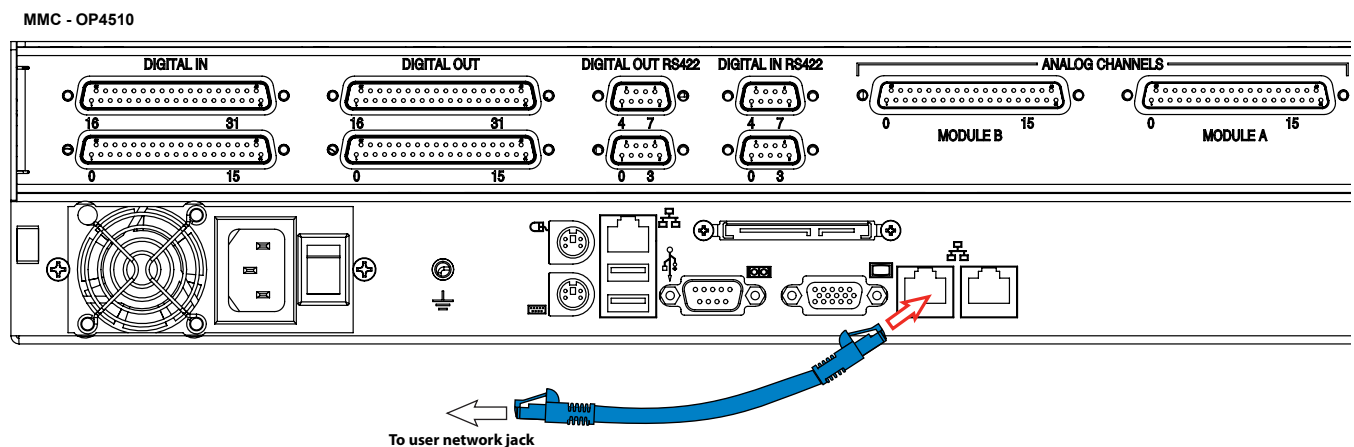

Figure 5: Connecting the MMC/OP4510 to the network
2. Connect the Ethernet cable from the OP4510 to the nearest network jack, as shown in Figure 5